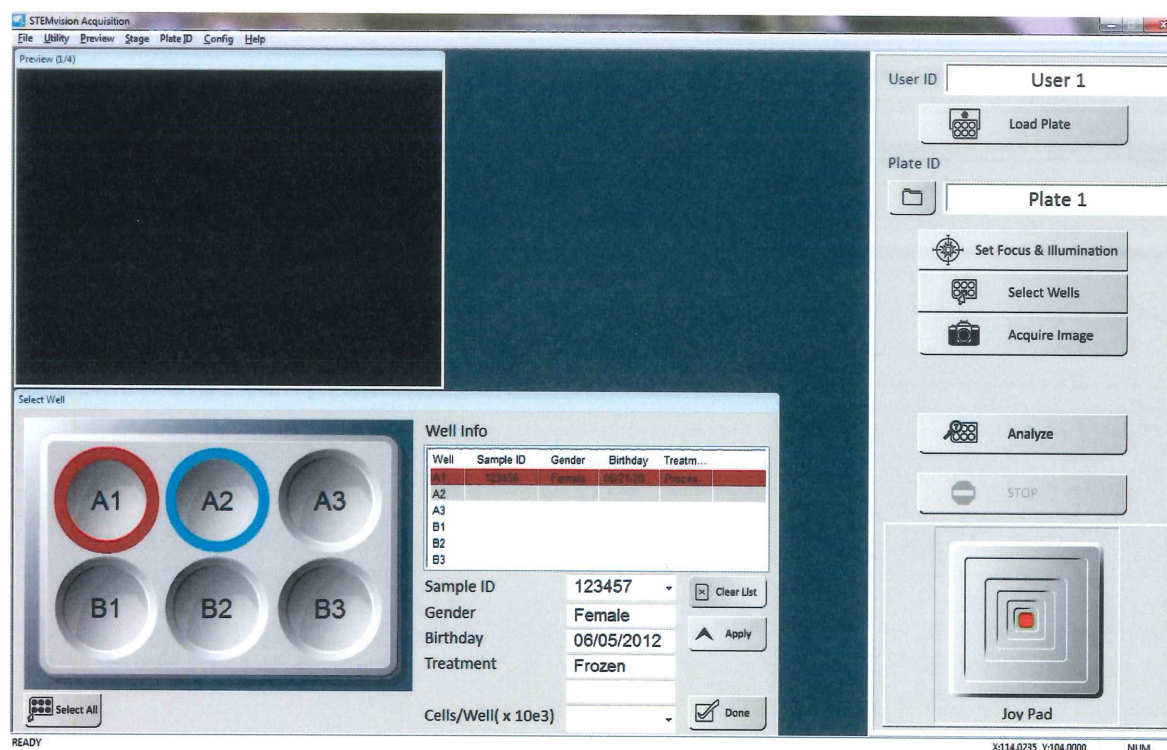

Figure 9: Sample ID Information Dialog Box
1. Click the “Select Wells” button in the Control Panel. A dialog box (Select Wells) will appear on the screen showing a graphic of a 6-well plate and a “Well Info” table where the associated sample information is displayed (Figure 9).